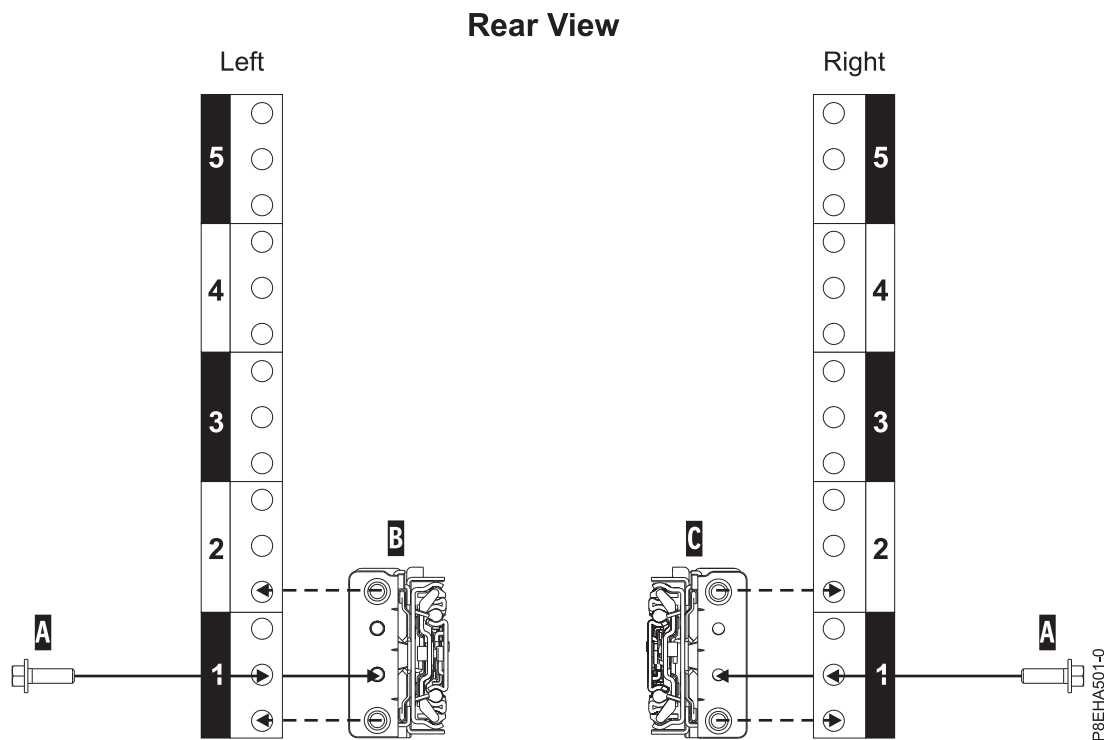

Figure 4. Attaching the slide rails at the rear of the rack
12. Secure the left slide rail (B) and right slide rail (C) with a M5x16mm screw (A) as shown in Figure 4. Insert and tighten each screw into the threaded slide flange hole in the middle hole of the lowest EIA rack unit.